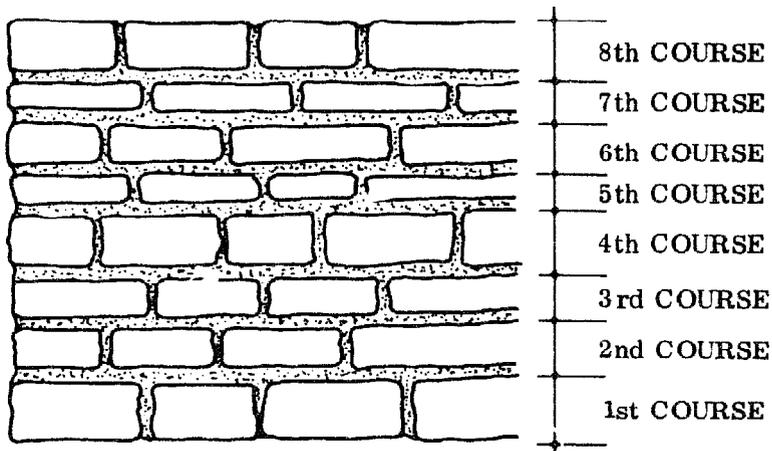

Fig. 2 RANGE MASONRY
- RANGE MASONRY: The accurately squared stones are laid in courses, and each course is uniformly thick throughout its length. However, the courses are not all necessarily all the same thickness (Fig. 2).